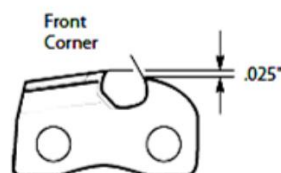

Figure.15
3. Remove the depth gauge tool. Using a flat file, round off the front corner of the depth gauge (see Figure 15). After several hand files, have an authorised service centre or sharpening machine sharpen the chain. This will even ensure filing.